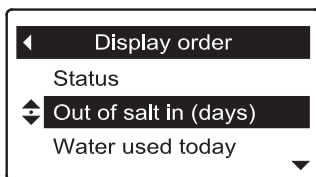

FIG. 117
6. Press the SELECT (○) button. Arrows will appear next to the item (See Figure 117).